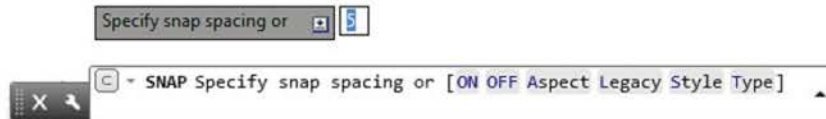

Fig. 1.24 Setting Snap to 5
- At the keyboard, enter **snap** followed by *right-click*. Then enter **5** followed by a *right-click* (Fig. 1.24).